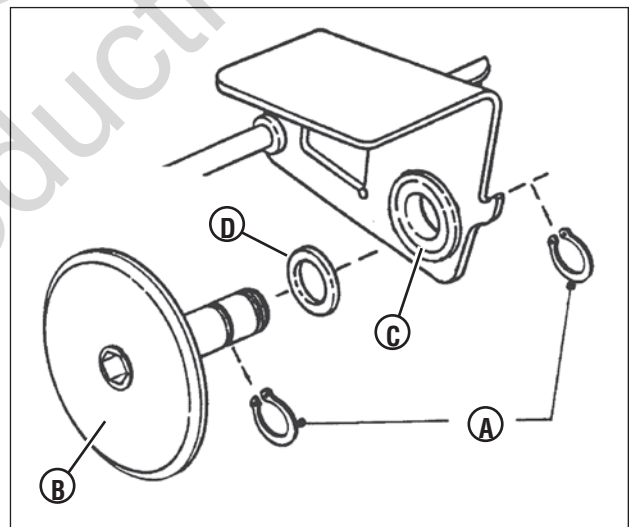

Figure 29: Replacing the driven disc
3. Remove the two snap rings (**A**, **Figure 29**) which secure the rubber driven disc (**B**) to the driven disc assembly.
2. Remove both snap rings (**A**, **Figure 29**) that secure the rubber driven disc (**B**) to the thrust plate.